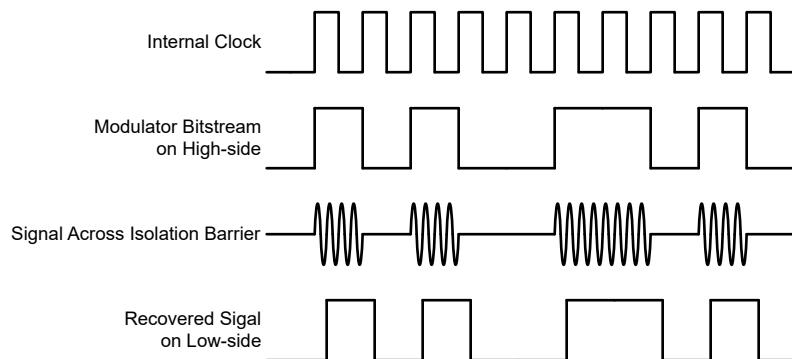

Figure 7-1. OOK-Based Modulation Scheme
As shown in Figure 7-1, the AMC0x11S-Q1 uses an on-off keying (OOK) modulation scheme to transmit the modulator output bitstream across the SiO_2 -based isolation barrier. The transmit driver (TX) is illustrated in the *Functional Block Diagram*. TX transmits an internally generated, high-frequency carrier across the isolation barrier to represent a digital one. However, TX does not send a signal to represent a digital zero. The nominal frequency of the carrier used inside the AMC0x11S-Q1 is 480MHz.